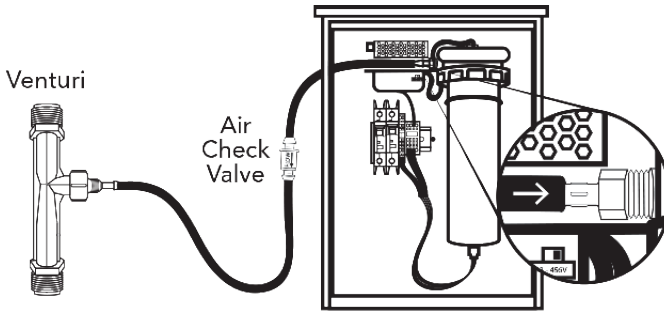

Figure 6: Venturi Connection
1. Run provided 1/4-inch tubing from the venturi injection port to the straight barb fitting. Length of tube should be less than 10 feet. See Figure 6.
5. Measure air suction using an air flow meter and set venturi air suction to draw between 4 - 7 LPM. See Figure 6 for details.